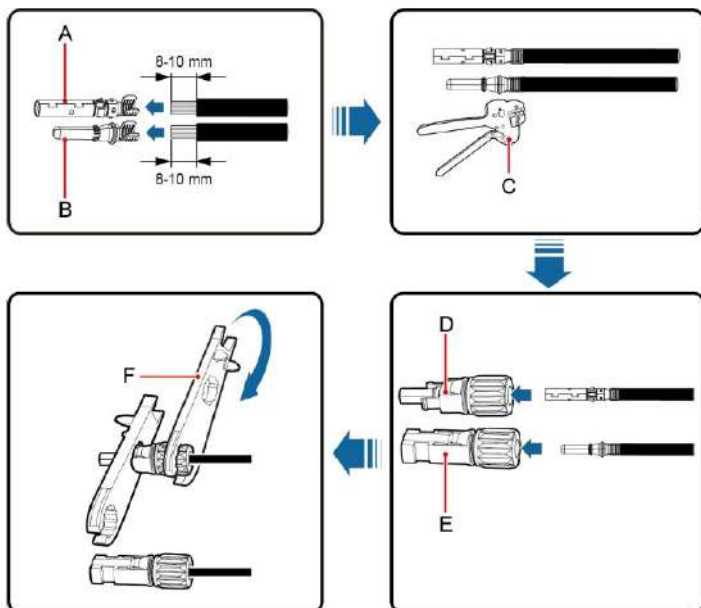

Figure 4.13 MC4 DC connector and PV string connection
This section presents the detailed contents and safety precautions related to electrical connection. Fig 4.13 is the connection diagram for PV grid-connected system.
- (1) Before connecting PV string to inverter, ensure proper measures against lightning and short circuit have been taken;
- (2) Connect the output cables of solar modules to the DC connector of inverter as Figure 4.13 shows. Remove the isolation layer of the DC cable for about 8-10mm. Insert the conductor part into the appropriate position of the connector, crimp the MC4 DC terminal and tighten the nut with a torque of 2.5-3Nm. Ensure the poles of solar modules are correctly and well connected with the connectors